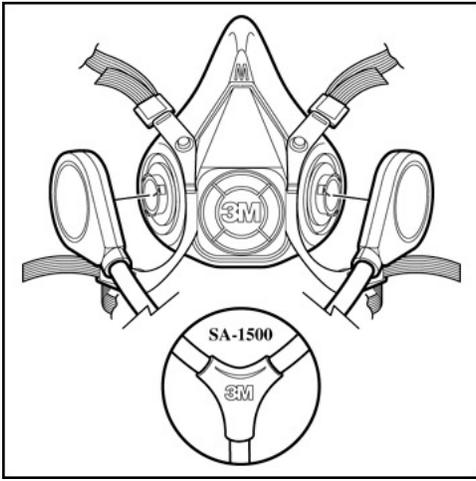

Fig. 2
1. Hold the half facepiece in front of you so that the 3M logo on the half facepiece is facing you. Align the two branches of the breathing tube over the two bayonet mounts on the half facepiece. For the 3M™ SA-1500 or SA-1600 Breathing Tubes, make sure that the 3M logo on the breathing tube and on the half facepiece are both facing towards you. For the 3M™ SA-2500 or SA-2600 breathing tubes, make sure that the 3M logo on the breathing tube is facing in the opposite direction to the 3M logo on the half facepieces. (Fig. 2 and 3)